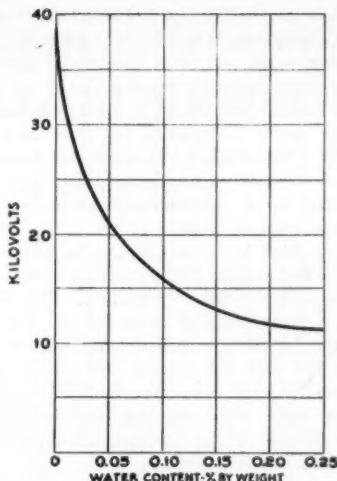

FIG. 3. RELATION OF OIL DIELECTRIC STRENGTH TO MOISTURE CONTENT
Moisture is undesirable in a methyl chloride system because any water above a very small quantity may freeze out and block refrigerant lines and orifices in cold parts of the system. Also, continued operation in the presence of moisture especially at higher temperatures may result in the formation of corrosive hydrochloric acid, although none is formed at ordinary temperatures. As it has been found advisable to manufacture methyl chloride to a specification of 0.01% by weight maximum moisture content, it is reasonable to expect the same dryness of the oil used with it. Oils are generally sold on a specification of dielectric strength rather than percentage moisture content, and an oil of approximately 30,000 volts dielectric strength may be considered as being satisfactorily dry. Figure 3 shows how dielectric strength of an oil may vary with (4) moisture content. To keep the oil dry, exposure